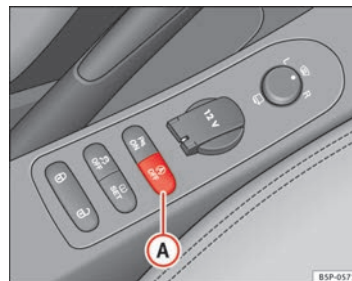

Fig. 137 The Start-Stop function button.
- Press the  ⇒ Fig. 137 located in the centre console. When the Start-Stop function is deactivated, the pushbutton indicator lights.
- Press the  ⇒ Fig. 137 located in the centre console. The indicator on the button will go out.